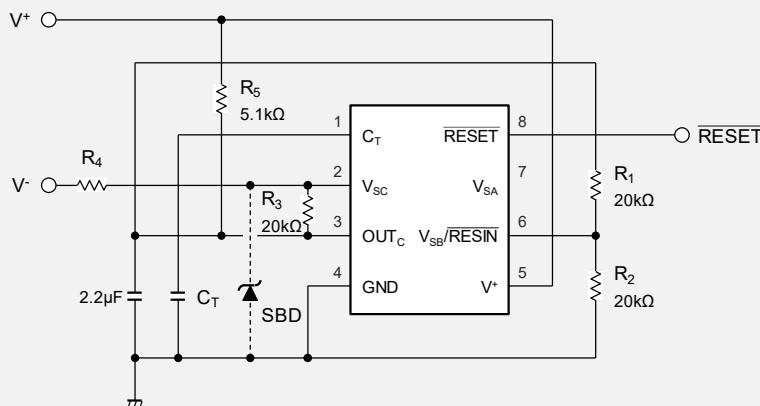

Fig. 10 Positive and negative dual power supply monitoring ($V^+ = 5V$, V^- =negative voltage)
- V^- detection voltage is calculated as following formula. In case of resistor value in Fig.10, the detection voltage (falling) is about -4.4V and the detection voltage (rising) is about -4.5V.